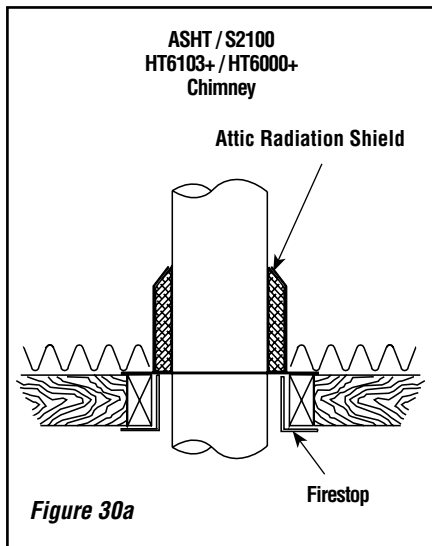

Figure 30a
From below, install a firestop in each ceiling/floor separation through which the chimney will pass. At the attic level, install an attic radiation shield from above (see **Figures 30a and 30b**).
3. Use another elbow to turn the chimney vertically. Secure the elbow, using three (3) 1/2" (13 mm) screws (provided with the elbow).
5. From below, install a firestop (See **Figure 30a**).